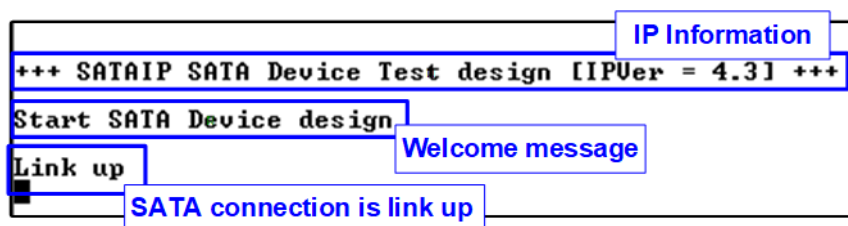

Figure 2-7 Welcome message and status of SATA device demo
11. (Optional) On PC Serial console, “Start SATA device design” and “Link up” are displayed, as shown in Figure 2-7. Now new disk is ready for Host PC.